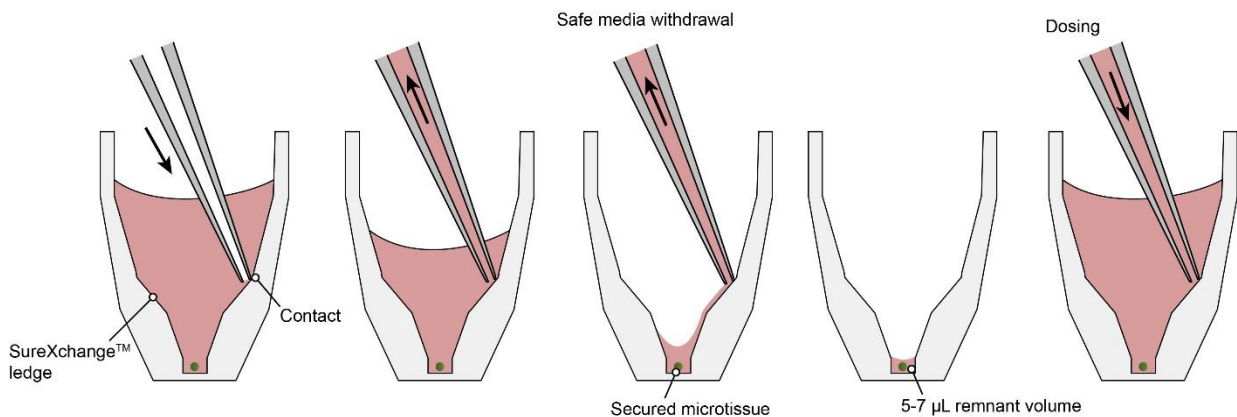

Figure 3: Medium exchange in the Akura™ 96 Plate. Left: Medium removal with the pipette tip placed at the ledge of the well. Right: Medium addition.
2. Gently pipette the pre-wetting solution up and down and remove pre-wetting solution by placing the tip at the ledge of the upper cavity of the well (Fig. 3). Aspirate until medium is completely removed from each well. A negligible amount of medium (<5-7 µl) may remain in the bottom of the chamber.
1. Place the pipette tip at the ledge of the well (Fig. 3, left).
3. Add 70 μL of fresh medium by placing the pipette tip at the ledge (Fig. 3, right). Use a dispensing rate <50 $\mu\text{L}/\text{sec}$.
1. Place pipette tip at the ledge by slowly sliding down along the inside wall of the well until a subtle resistance can be felt (Fig. 3, left)
3. Add 70 µl of pre-warmed medium by placing the pipette tip at the ledge of the plate well (Fig. 3, right) and gently dispense at low pipetting speed (speed dependent on spheroid type, ~10 – 30 µl/sec if using an automated multi-channel pipette).